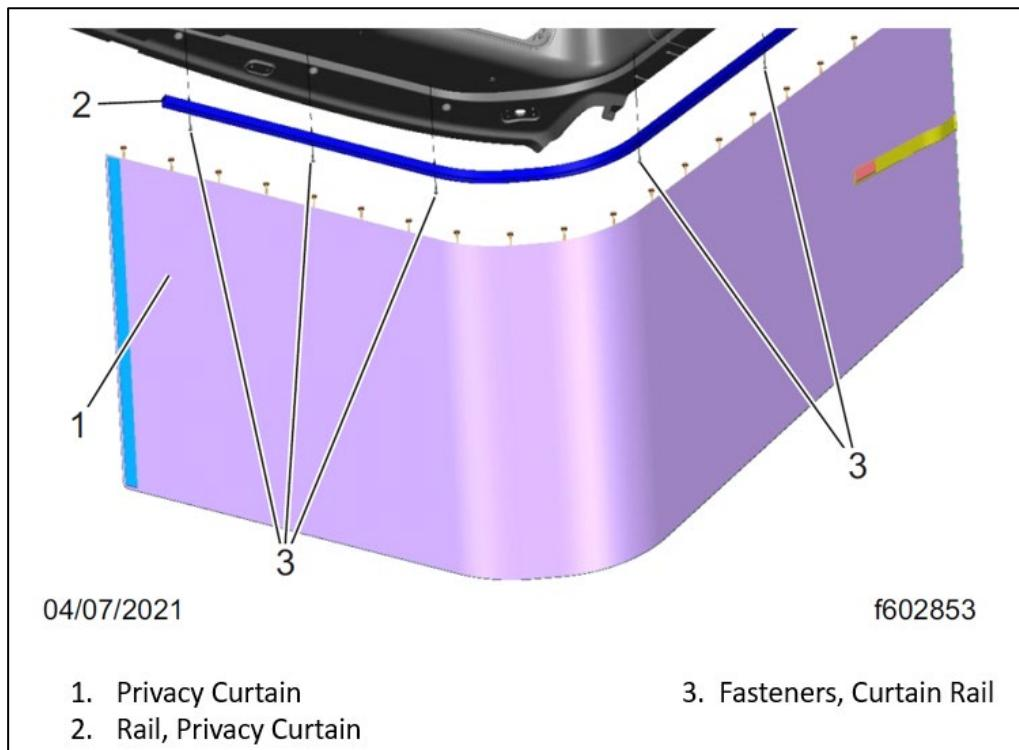

Fig. 61, Privacy Curtain Rail Assembly
13. Install the fasteners that attach the privacy curtain rail to the RH side overhead storage assembly. See **Fig. 61**. Tighten the fasteners 2.2 lbf.ft (3 N.m)